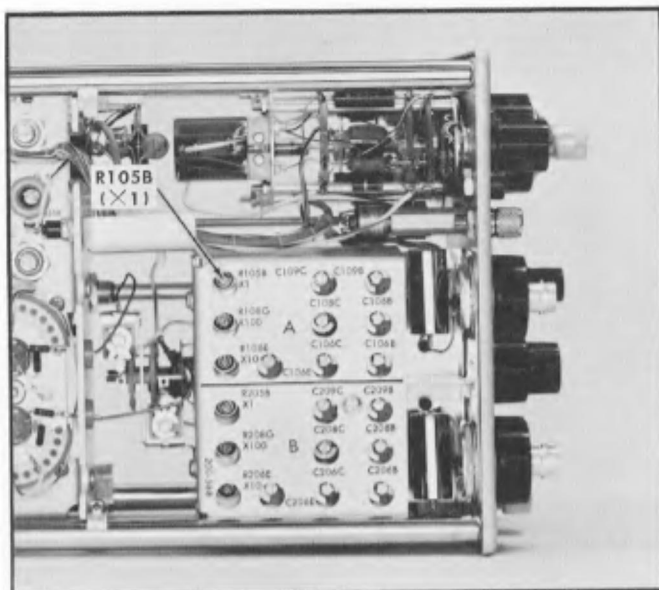

Fig. 5-37. Location of step 28g adjustment.
g. Adjust R105B (see Fig. 5-37) to obtain a null reading on the non-loading voltmeter.
29. Adjust R206E (Input B 10X Attenuator) ①